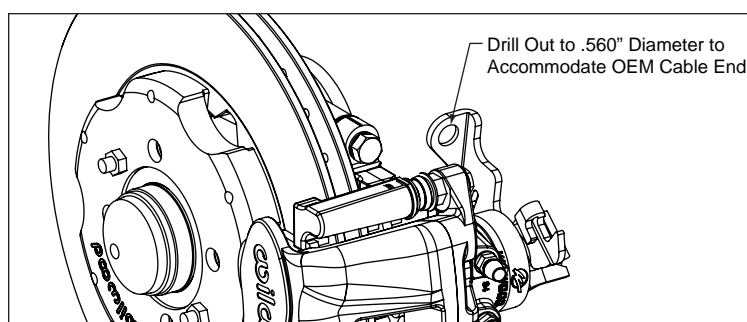
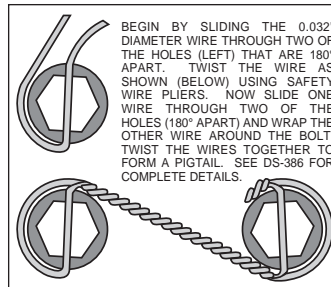

Figure 1. Caliper Cable Bracket Modification
Figure 4. Safety Wire Diagram
The parking brake cable bracket on the new Wilwood calipers needs to be modified to accommodate the original equipment cable end. Drill out the existing hole in the caliper as shown in Figure 1 to .560" diameter.
Assembly Instructions (numbers in parenthesis refer to the parts list and Figure 1 on the preceding pages):
- The caliper mount bracket (1) should initially be installed with clean, dry threads on the mounting bolts. Orient the bracket as shown in Figure 1 and Photo 1, and install using washers (3) and bolts (2). Initially place two .030 thick shims (4) on each bolt between the bracket and upright, Figure 1. Temporarily tighten the mounting bolts. **NOTE: The bracket must fit squarely against the mount bosses on the upright.** Inspect for interference from casting irregularities, machining ridges, burrs, etc. Later, after the caliper alignment has been checked, the mount bolts will be secured using red *Loctite*® 271.
- Orient the rotor (6) and the hat (7) as shown in Figure 1 and Photo 2. Attach rotor to hat using bolts (9) and washers (8). Using an alternating sequence, apply red *Loctite*® 271 to the threads, and torque to 155 **in-lbs**. For an added measure of security, the bolts may be safety wired using standard 0.032 inch diameter stainless steel safety wire as shown in Figure 4. Please refer to Wilwood's data sheet DS-386 (available at www.wilwood.com/Pdf/DataSheets/ds386.pdf) for complete safety wire installation instructions.
- Slide the rotor registration adapter (5) onto the axle register on the axle hub with the smaller O.D. facing outward, Photo 3. Slide the hat/rotor assembly onto the axle hub. **NOTE: The hat must fit flush against the axle hub flange or excessive rotor run out may result.** Install three lug nuts (finger tight) to keep the hat/rotor assembly in place while continuing with the installation.
- Install the brake pads (15) into the caliper (10) from the bottom with the friction material facing the rotor until the "v" spring clip snaps into place against the anvil, as shown in Figure 1 and Photo 4. They should install easily without interference.
- Lubricate the caliper mounting studs (13) with lightweight oil. Initially place two .035" thick shims (14) on each stud as shown in Figure 1 and Photo 5. Mount the caliper (10) onto the bracket (1) using lock nuts (11) and washers (12), Figure 1 and Photo 6. Temporarily tighten the lock nuts and view the rotor from the end of the caliper. The rotor should be centered in the caliper, Photo 7. If not, adjust by adding or subtracting shims (4) between the bracket and the upright. Always use the same amount of shims on each of the two mounting bolts. Once the caliper alignment is correct, remove the bracket mounting bolts (2) one at a time, apply red *Loctite*® 271 to the threads, and torque to 30 ft-lb.